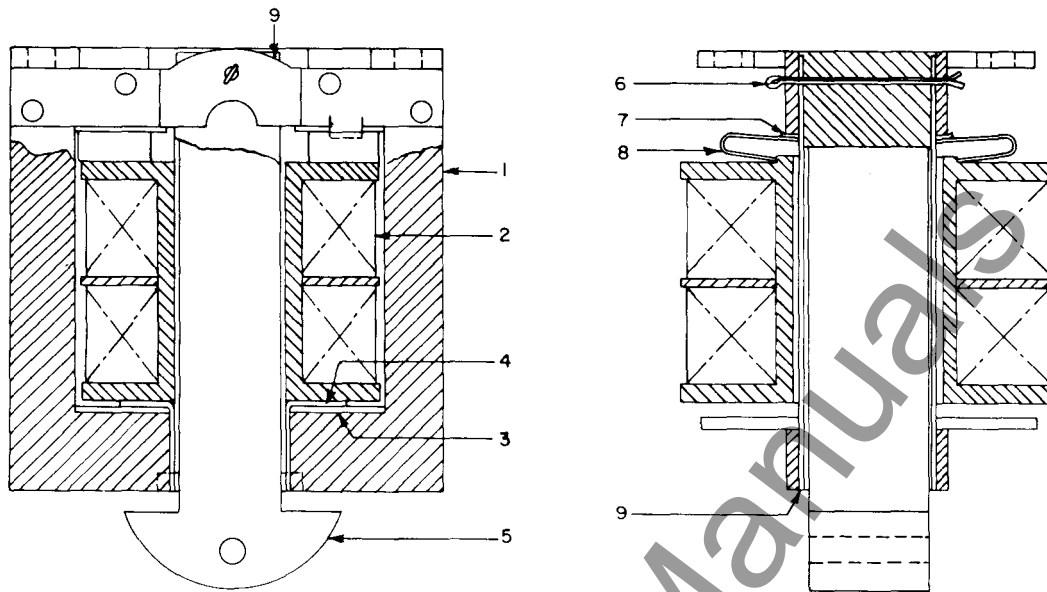
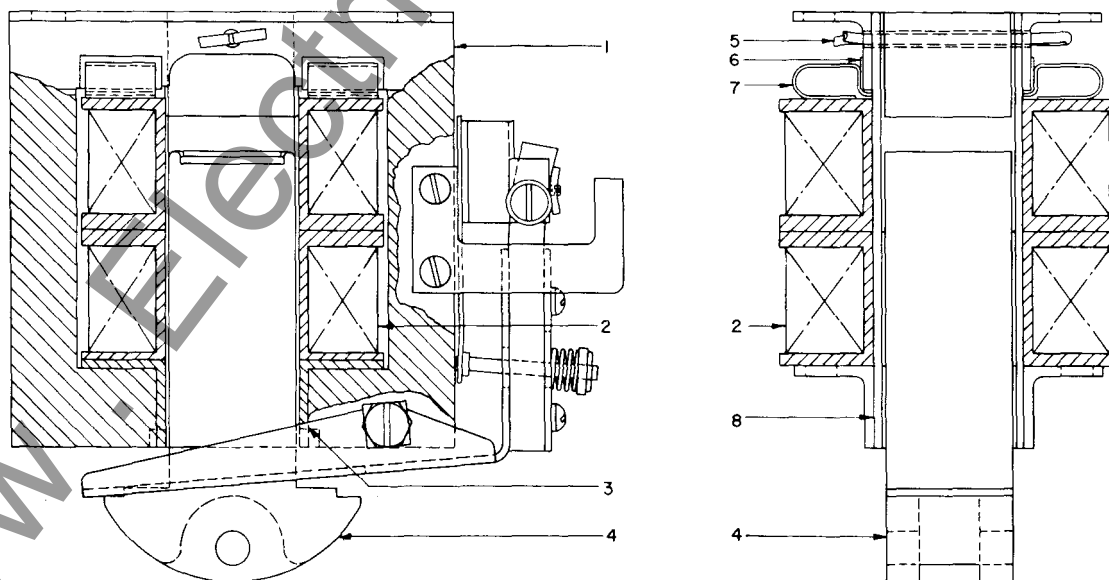

Fig. 3. All forms of CR9503-210B, -210C and -211E solenoids
Fig. 4. CR9503-206B and -211E solenoids with cutout switch
Class 3 consists of CR9503-210B, -210C and -211E solenoids, Fig. 3.
Class 4 consists of the CR9503-206B and -211E solenoids with cutout switch, Fig. 4.
CLASS 3 (SEE FIG. 3)
To assemble, invert the solenoid and assemble the insulating pieces (7) and springs (8) as shown in Fig. 3. Locate the coil on top of the springs, and assemble angle guides (4) and plunger guides (9) in the slots provided. Fasten the assembly with the cotter key (6). If the solenoid is of the push-pull type, guides (9) and cotter key (6) are omitted. If cutout switch is used, assemble it as shown in Fig. 4.
CLASS 4 (SEE FIG. 4)
To assemble, invert the solenoid and locate insulation pieces (6) and springs (7) as shown in Fig. 4. Place the coil on top of the springs and assemble the angle guides (3) and plunger guides (8). Fasten with cotter key (5). If the plunger is of the push-pull type, guides (8) and cotter key (5) are omitted.